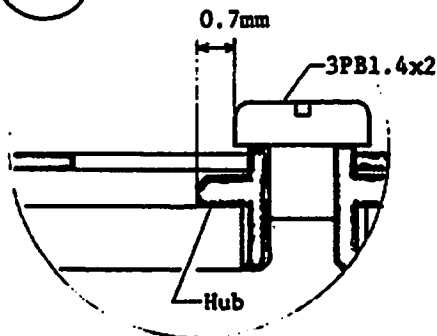

Fig. 138
- \* Judge 0.6mm gaps with an eye-measurement referring to 0.7mm gaps between edge of Hub and head of Screw (3PB1.4x2) as shown in Fig. 138.
(2) Adjustment at the counter "1"